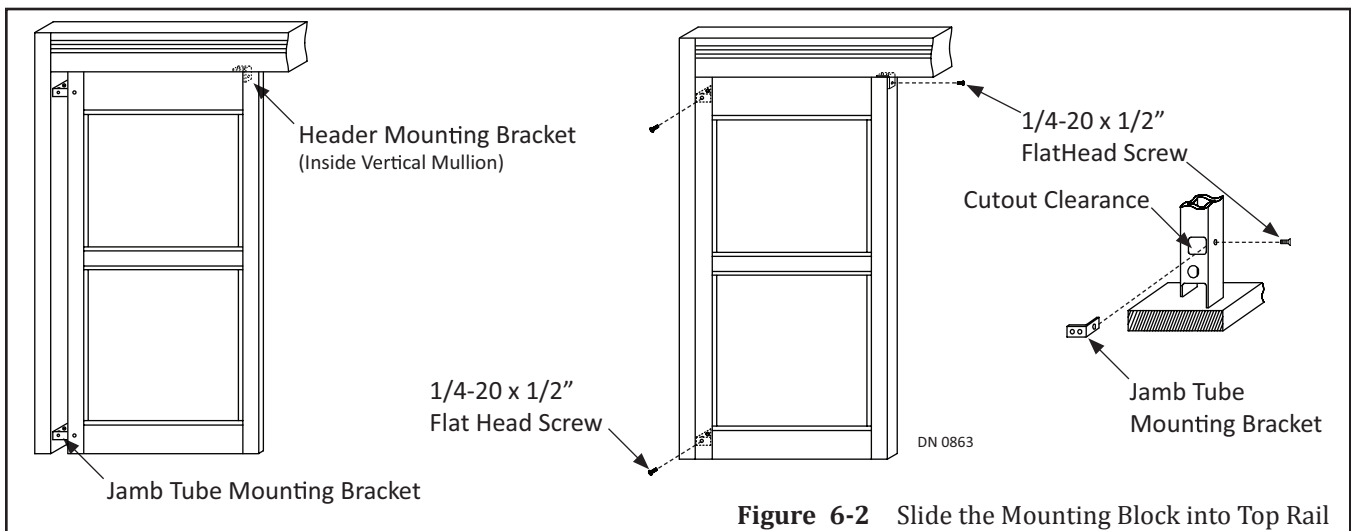

Figure 6-2 Slide the Mounting Block into Top Rail
1. Locate (2) pre-installed Mounting Brackets on the Jamb Tube. Please see Figure 6-2.
3. Go to the Header. Locate (1) pre-installed Mounting Bracket located at the bottom.
7. Obtain (3) 1/4-20 x 1/2 inch Flat Head screws provided by NABCO.
8. Secure all (3) Mounting Brackets to the Fixed Sidelite Panel with 1/4-20 x 1-1/2 inch Flat Head screws. Please see Figure 6-2.